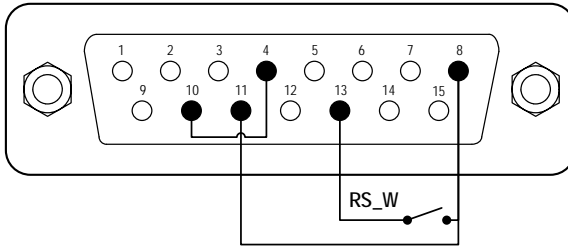
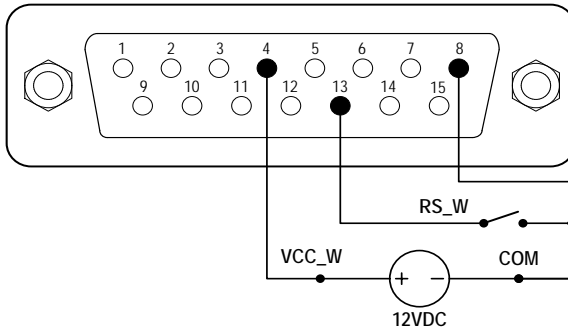

Figure 46. Control Start/Stop with Internal 12V Power Source
Figure 47. Control Start/Stop with External 12V Power Source
- 1) Power off the pump. Wire the DB15 connector as shown in Figure 46 or Figure 47, and connect it to the DB15 port located at the rear of the pump.